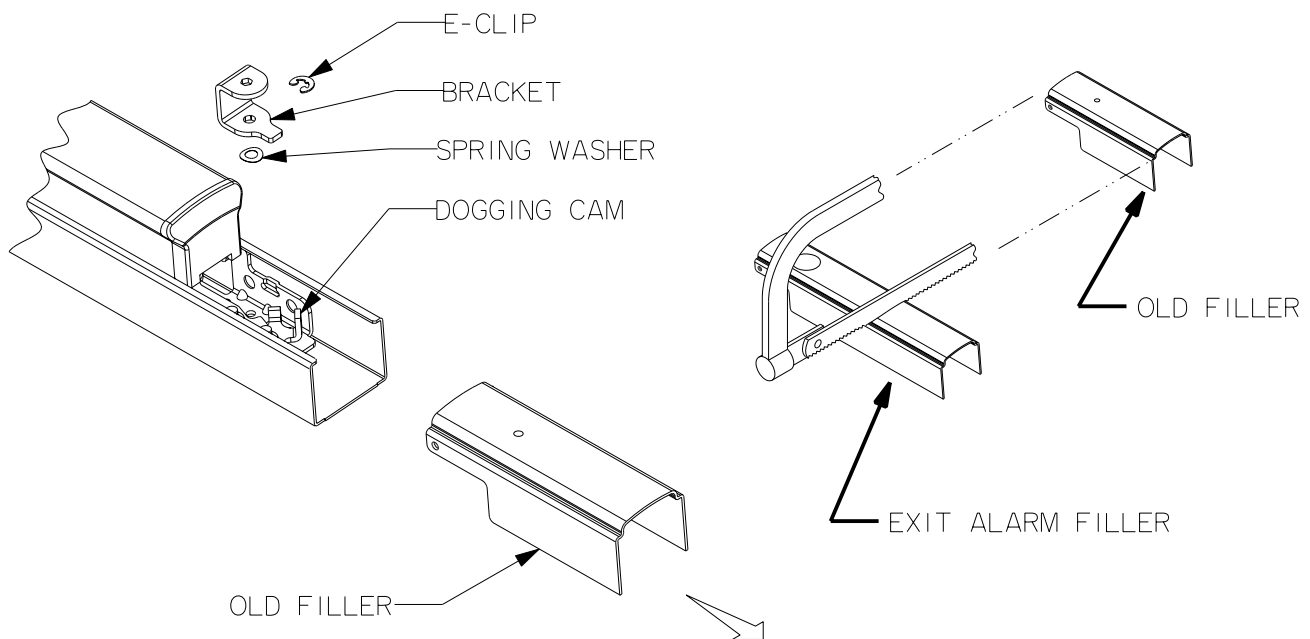

FIGURE 2
4. Remove Filler as shown in FIGURE 2.
5. Remove Hex Dogging parts as shown in FIGURE 2 (if installed).